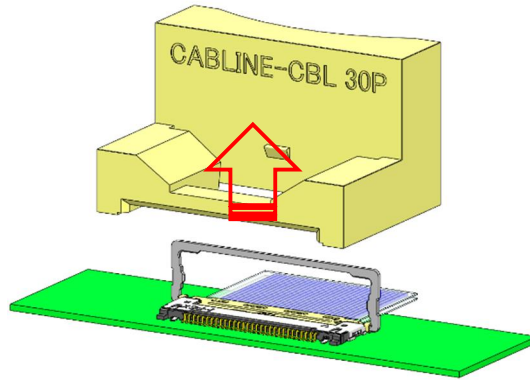

Fig.14
④ Remove the mating jig vertically as shown in Fig.14.